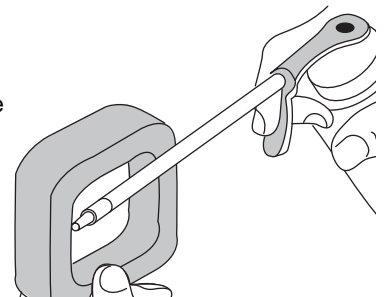

Fig. 29
4. Apply enough clean SAE 30 motor oil to lightly coat the filter (Fig. 29).